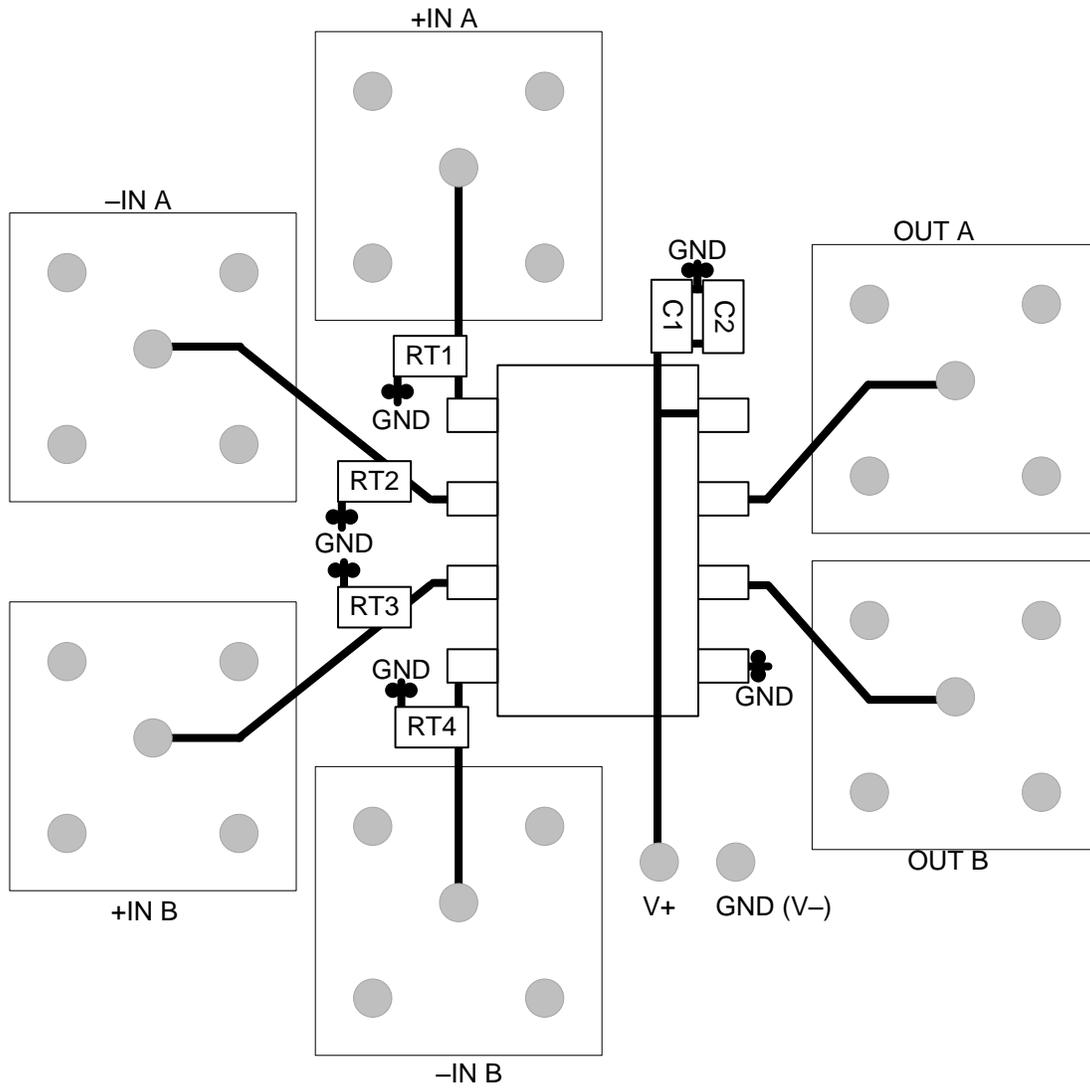
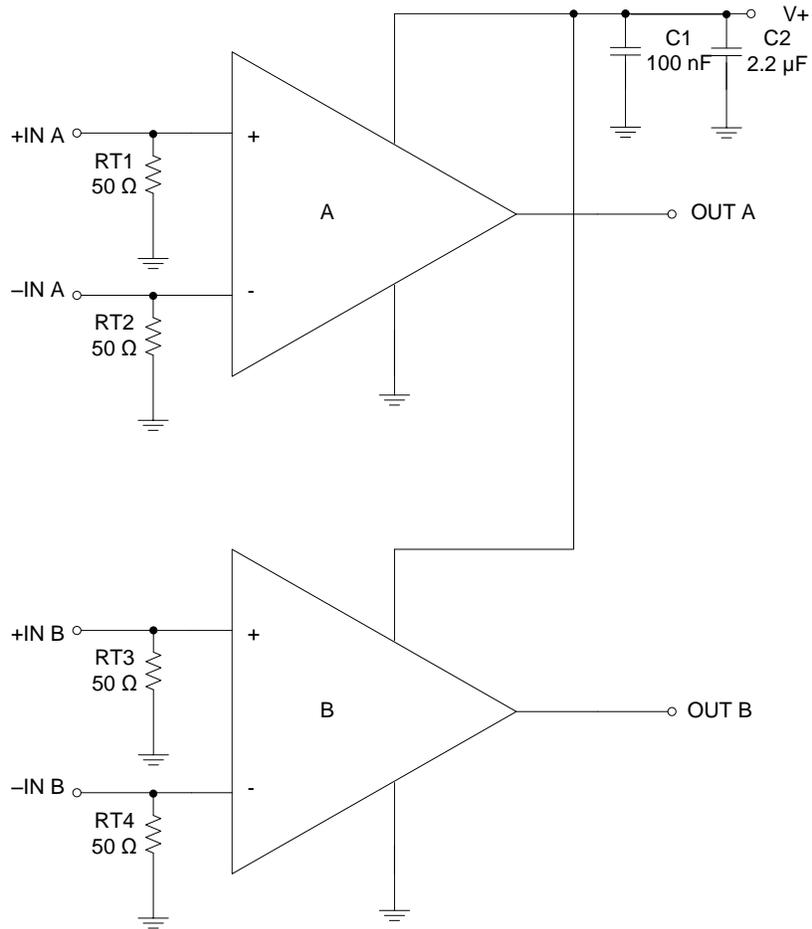

Figure 21. TLV3502-Q1 Sample Layout
Figure 22. Schematic for Figure 21
- Figure 21 shows an evaluation layout for the TLV3502-Q1 SOT23-8 package. The device is shown with SMA connectors bringing signals on and off the board. RT1, RT2, RT3 and RT4 are termination resistors for + IN A, + IN B, -IN A, and -IN B respectively. C1 and C2 are power-supply bypass capacitors. Place the 0.1- $\mu\text{F}$  capacitor closest to the comparator. The ground plane is not shown, but the pads that the resistors and capacitors connect to are shown. Figure 22 shows a schematic of this circuit.